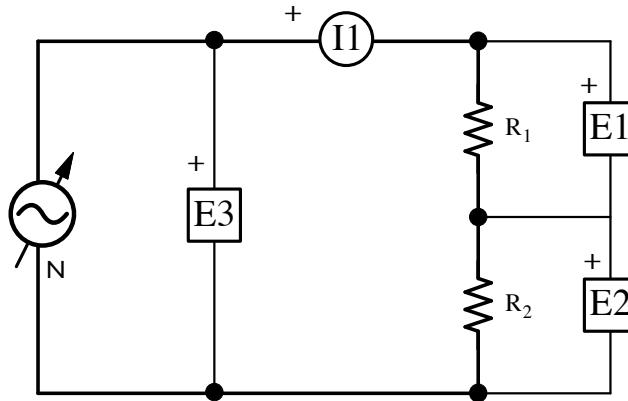

Figure 1.6: Voltage Divider Circuit
21. Add E_1 and E_2 to measure the voltage drop across resistors R_1 and R_2 , as shown in Figure 1.6, and adjust the source voltage to **100 V** with the voltage control knob.